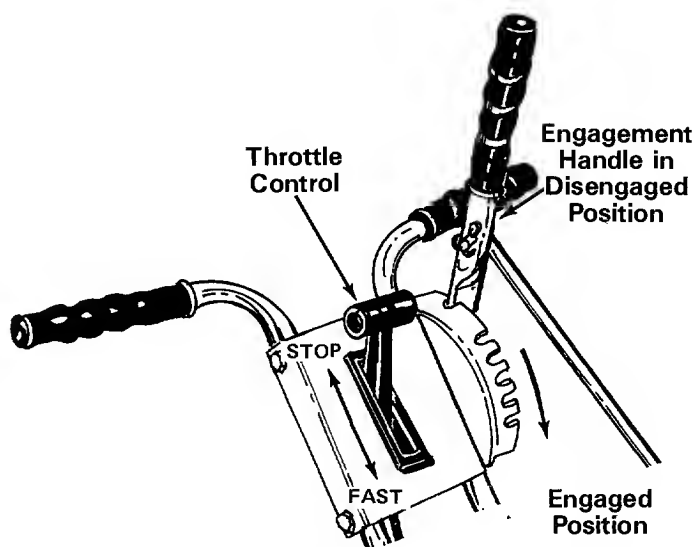
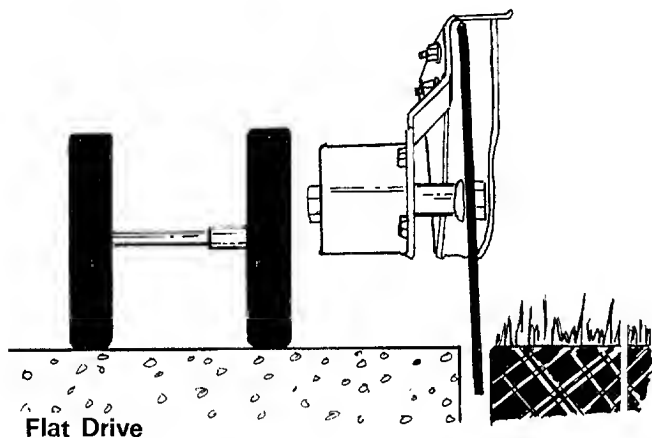

FIGURE 12
FIGURE 16
The throttle control lever is located on the handle panel. It regulates the engine speed and stops the engine. See figure 12.
The engagement handle controls the clutching and declutching of the belt. To declutch, the handle is pulled back toward the operator. The farther forward the handle is pushed, the deeper the cut. To move the engagement handle, first move it to the left so the handle is out of the notch. See figure 12.
3. Move the engagement handle (depth control) back as far as it will go and place in the last notch. See figure 12.
1. Set the adjustment lever (refer to figure 12) in the second notch at the top to edge vertically. See figure 16.